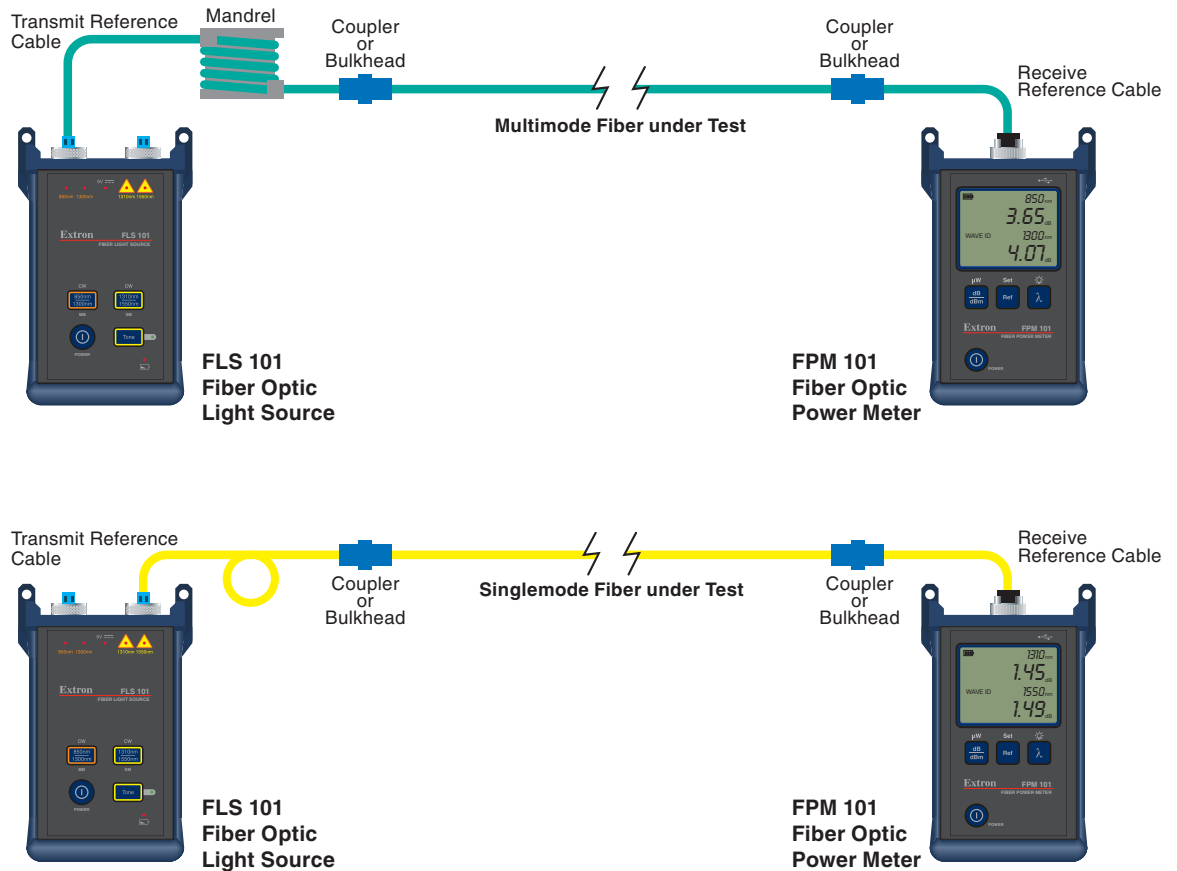

Figure 10. Connections to Measure Link Insertion Loss
- Insert the link to be tested by connecting it to the free ends of the transmit and receive reference cables using appropriate couplings, or connect the reference cables to the bulkhead connections of the link as shown in figure 10 below.
The two examples in figure 10 below show a multimode and singlemode fiber link being tested using dual WAVE ID. The insertion loss is displayed in dB.